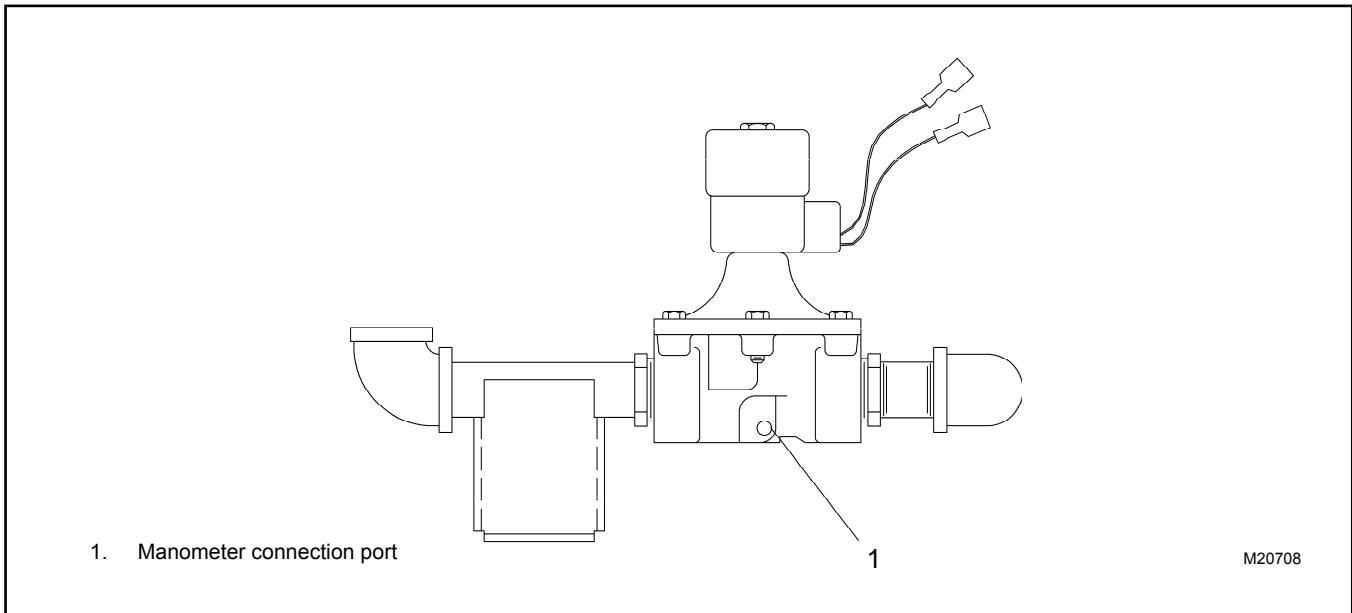

Figure 3 Solenoid Fuel Valve Manometer Port
1. Remove the 1/8" NPT pipe plug from the solenoid fuel valve located at the generator set fuel inlet connection. See Figure 3.